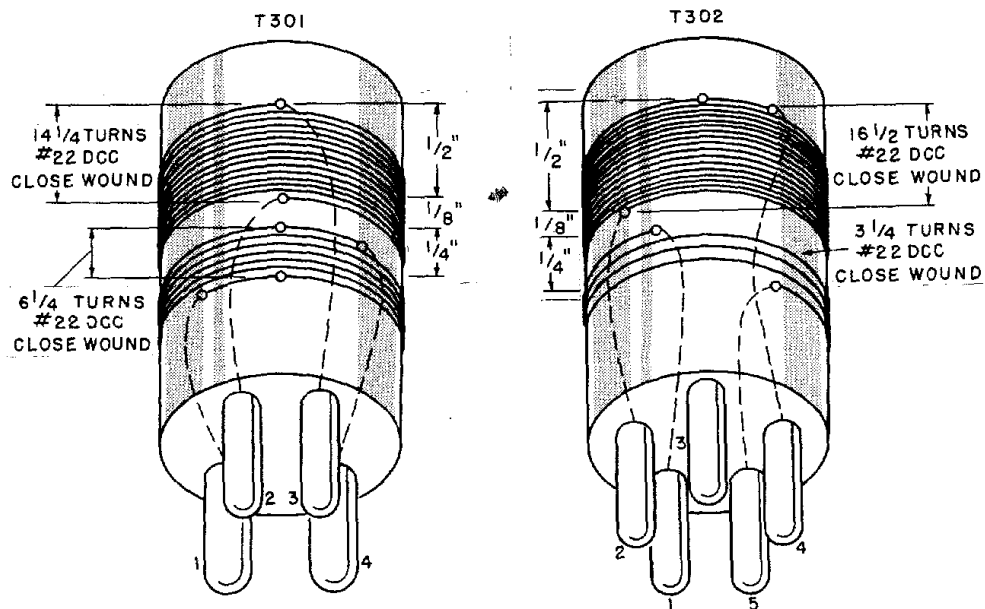

Fig. 3-12. Construction of receiver coils.
- Construct the coils as shown in Fig. 3-12, and then place the coils in their respective sockets.